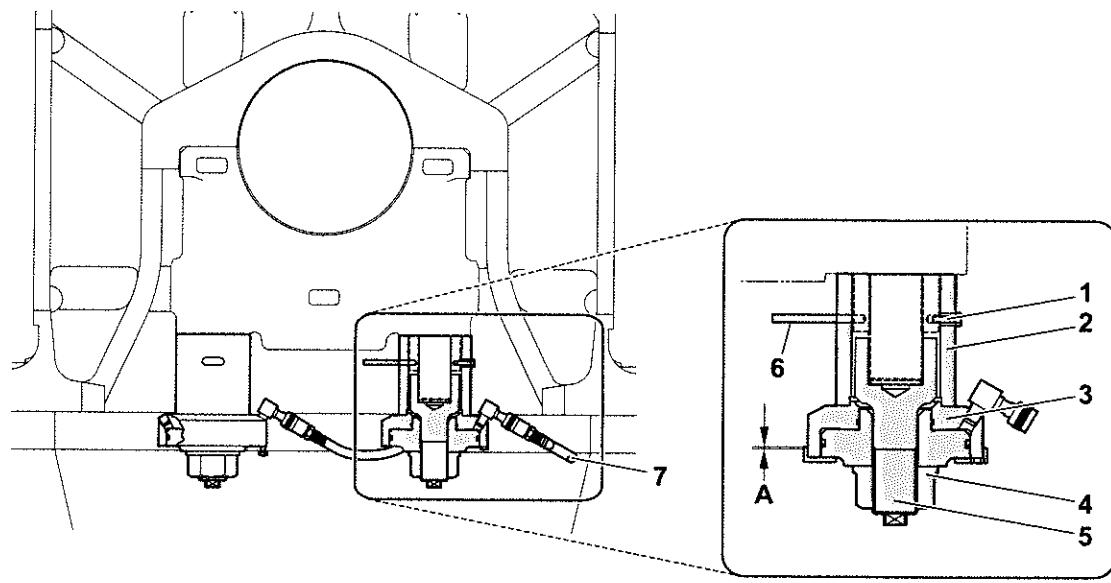

Fig.6 Operating the hydraulic jack
6. Make sure that the distance between the piston of the hydraulic jack and the end face of the body is not more than 1.5 mm. (See A in Fig. 6.)